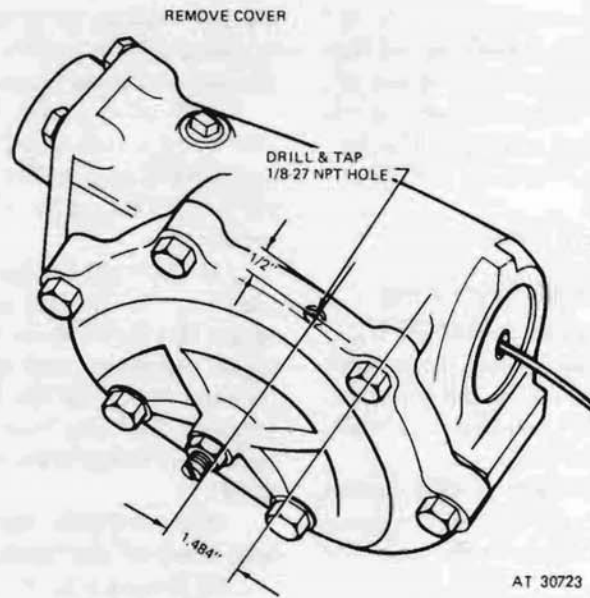

Figure 224.1. Check oil level plug—steering gear cover.
(3) Remove six hex-head cap screws securing side cover to the steering gear housing. Remove and discard gasket. The adjusting screw and lock nut located on center of side cover, should not be touched.
(4) Place side cover in bench vise in upright position. On the top surface of cover, measure back 1.484 inches from the center of the forward upper cap screw opening and mark. Measure ½-inch outward from the mounting edge of the side cover so that this measurement location will bisect the previous mark made on top of cover (fig. 224.1).
(5) At this point drill and tap one 1/8-27 NPT hole. Clean off any metal particles left on cover.
(6) Obtain a new gasket. Position side cover and gasket. Secure side cover to steering gear housing with six lockwashers and six hex-head cap screws.